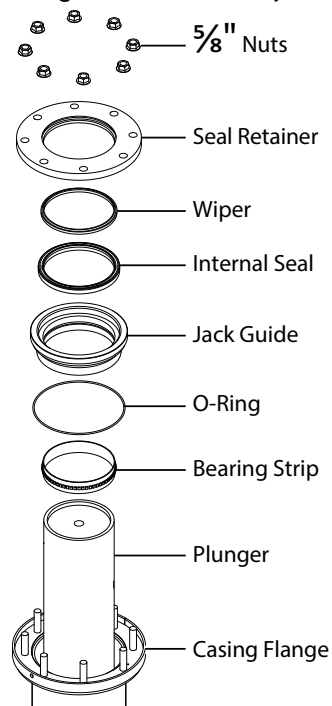

Figure 28 - Guide Assembly Sequence
- Position the casing flange gasket between the guide assembly and casing flange in the casing flange groove. See Figure 28.